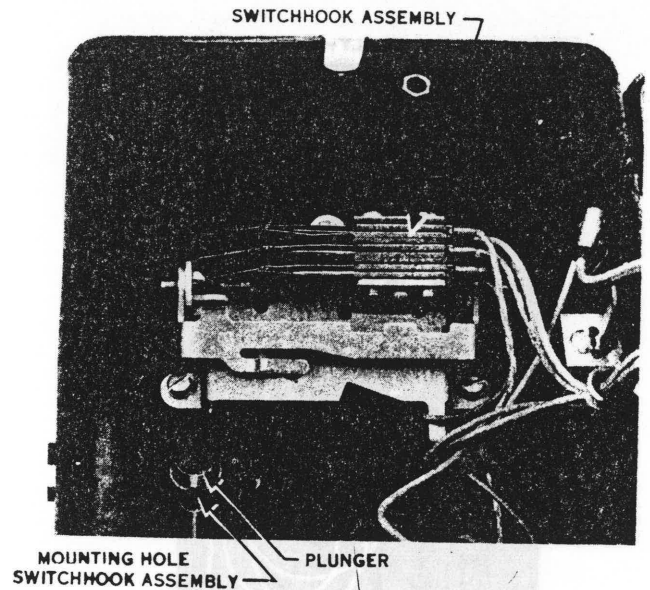

Fig. 9 - Plunger and Switchhook Assembly
3.02 The switchhook assembly holds the plungers and handhold cover in place on the 302-type telephone (Fig. 9).